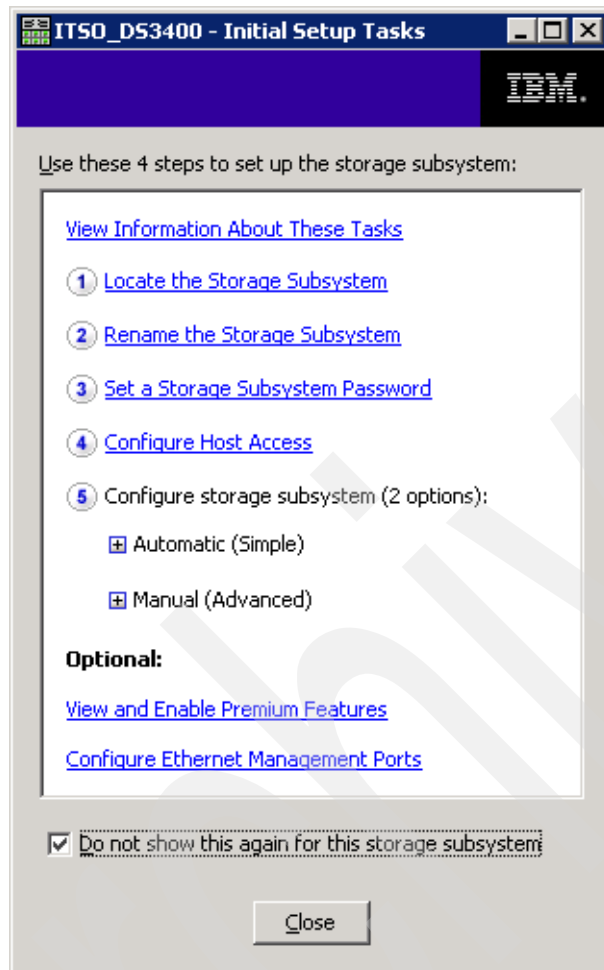

Figure 5-25 Initial Setup Tasks
5. Double-click the DS3400 to launch the Subsystem Management window. Besides the Subsystem Management window, another window opens up. This is the Initial Setup Tasks window, shown in Figure 5-25 on page 71. We will discuss each contained task.
We use the Initial Setup Tasks wizard to perform most of the basic configuration steps. Figure 5-25 displays the tasks available through this wizard.